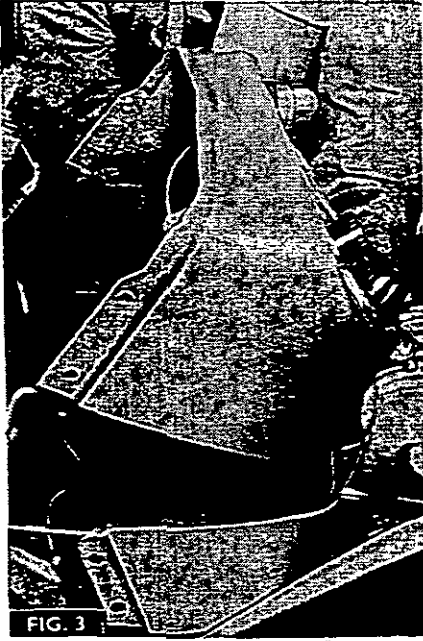

FIG. 3
11. Figs. 3 and 4. Manoeuvre the instrument panel over the steering column and clear of the tractor, then if necessary, remove the hand throttle lever and the instruments.